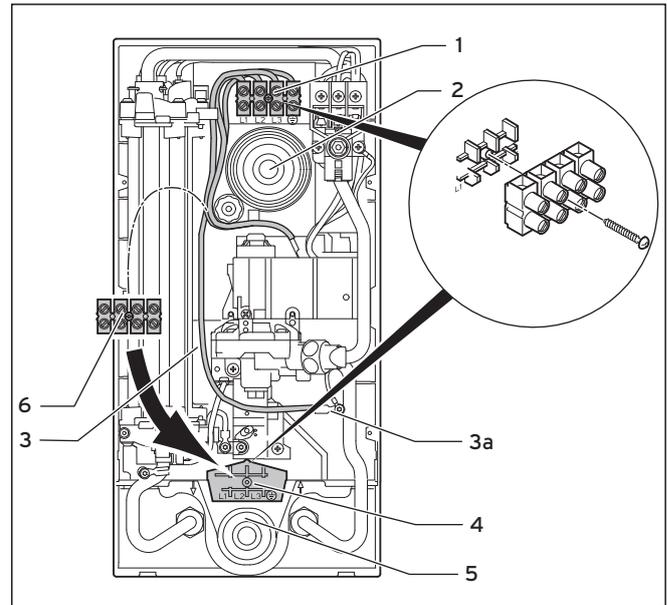

Fig. 4.10 Electrical connection from above or below
- Connect the individual conductors to L1, L2 and L3, and the protective earth to the mains connection terminal (1 in fig. 4.10).
- Unscrew the mains connection terminal (1) (see fig. 4.10).
- Move the mains connection terminal (6), including the internal cable, to the lower position (4) in the unit.
- Screw the mains connection terminal to the lower position (4).
- Pay particular attention to the internal protective earth (3) that is screwed to position 3a.